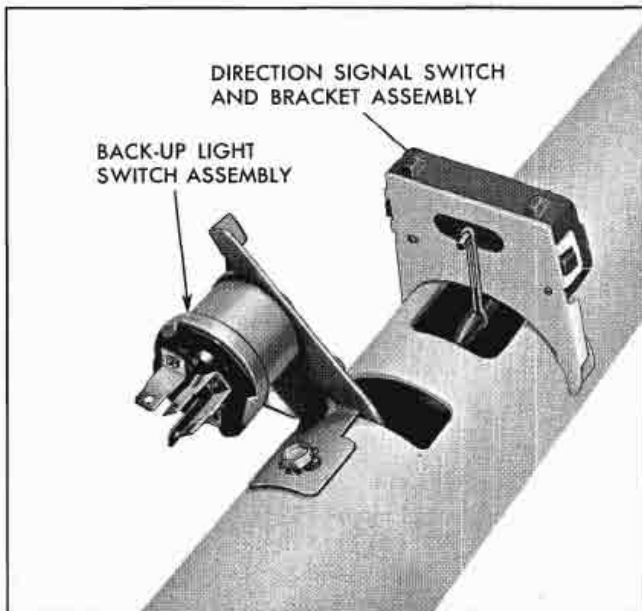

Fig. 7-27 Actuator Lever Engaging Direction Signal Switch
28. With carrier in neutral, insert .090"-.093" diameter gauge into two holes in switch bracket and install actuator lever, engaging lever on prong of switch (Fig. 7-27).
32. Install back-up light switch assembly on steering column and insert retaining screw and star washer. Tighten 10-35 lb. in. torque (Fig. 7-27).